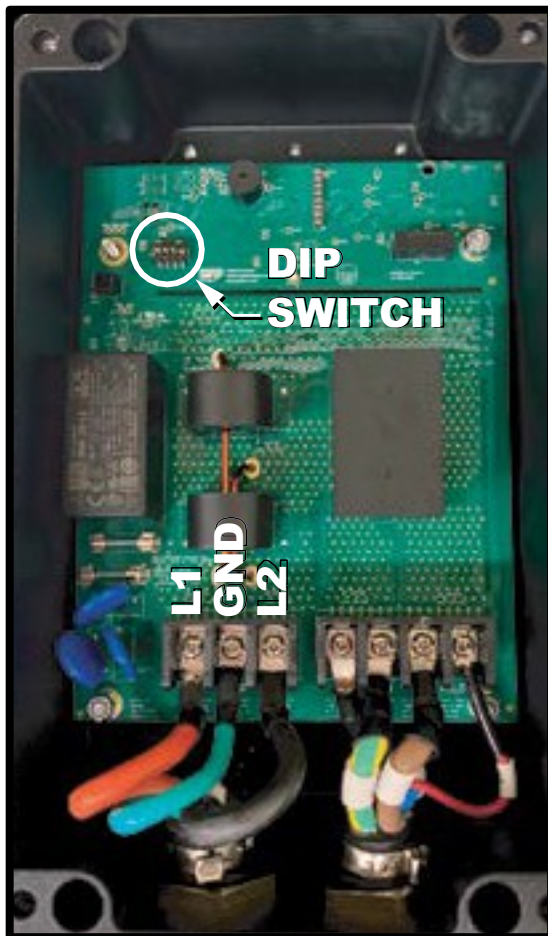

Figure 1-11
5. With the cover removed, locate the 4-position DIP switch near the upper left corner of the circuit board. (See *Figure 1-11*)
7. Insert the end of the wire through the conduit and into the input wiring hole. Use the red wire for L1, the Black wire for L2 and the Green wire for Ground. **(See Figure 1-11)**
10. After the input wiring and conduit have been connected - replace the front cover and tighten with the (4) cover screws. Torque = 13.88 lbs-in (16kgf-cm).